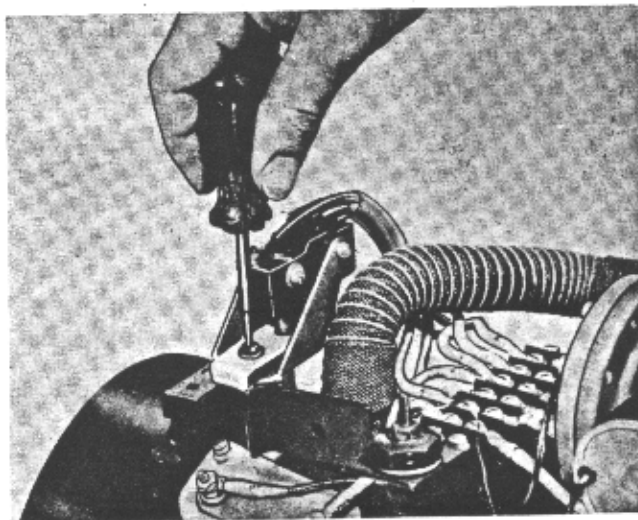

Figure 51
- b. Remove adjusting screw (Figure 51).
c. Back off adjusting screw until the switch "clicks" (Figure 51).